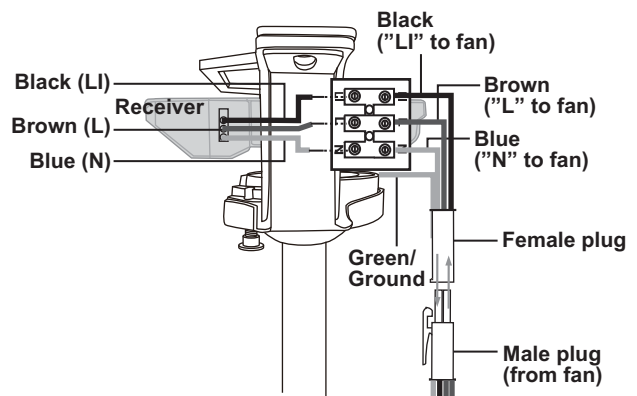

Figure 10
5. Connect the blue, neutral receiver neutral wire to the terminal block “N” hole. Connect the black, live receiver hot wire to the terminal block “L” hole. Connect the brown, live receiver hot wire to the terminal block “L” hole. (Fig. 10 & 11)
6. Be sure to snap together the male and female plugs. (Fig. 10 & 11)